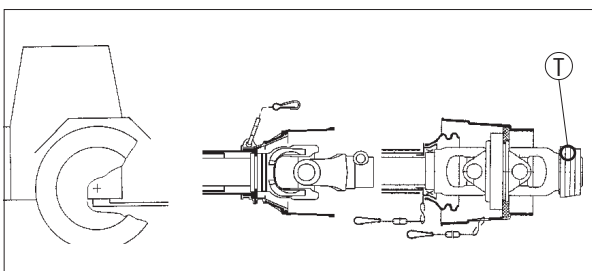
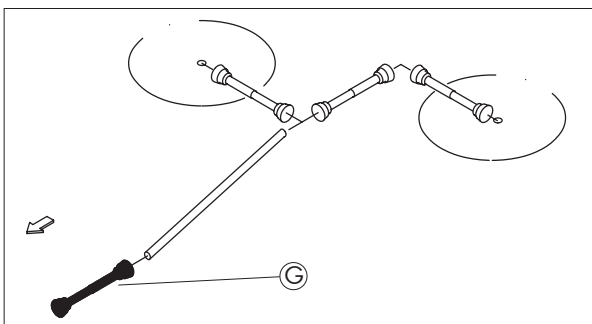

Fig. 3-23
Fig. 3-24
Mount the one-sided wide angle cardan shaft (G) with the wide angle joint to the machine. There is only one position at which the fork-shaped piece can be fastened to the intermediate shaft with bolt (T) (fig. 3-23 and fig. 3-24).